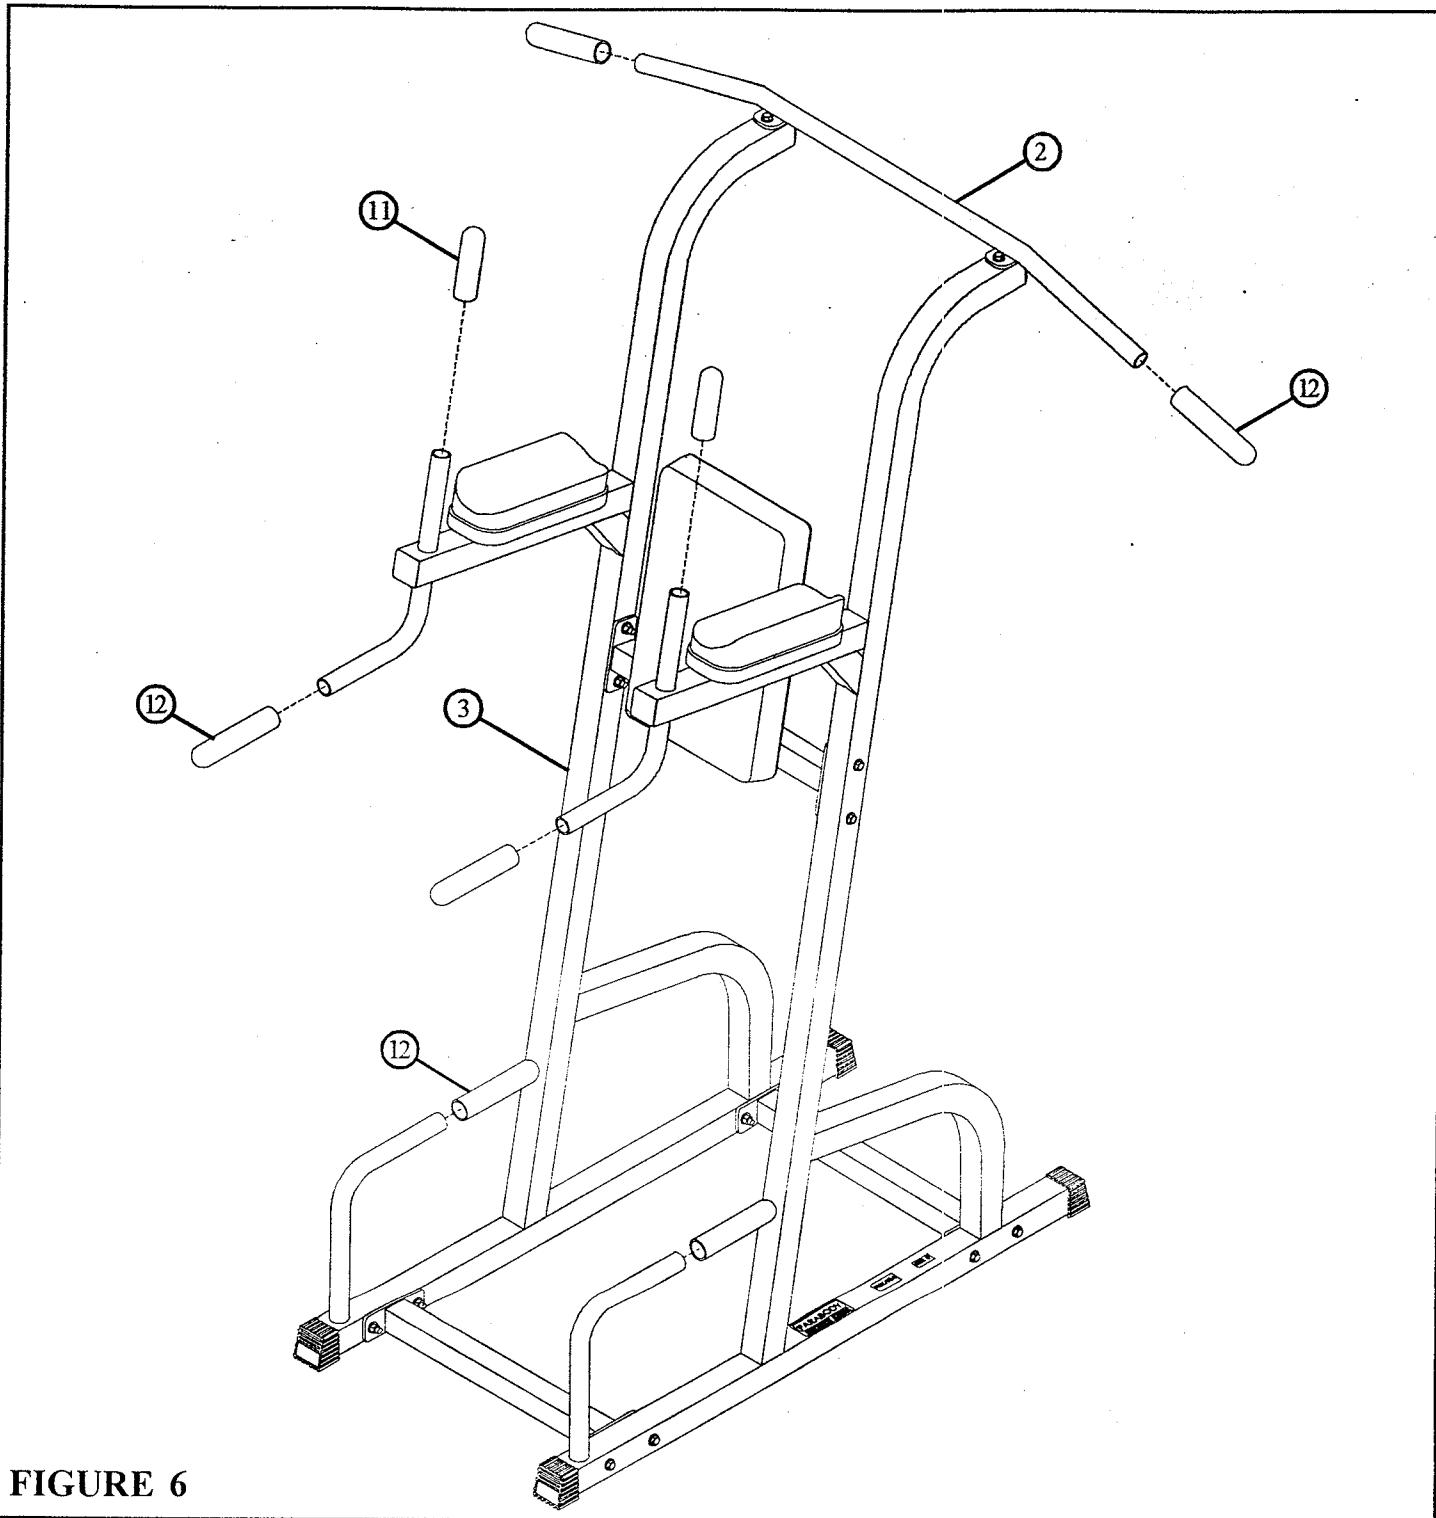

**FIGURE 5**
- **SECURELY** assemble the BACK PAD (5) to the UPPER BACK SUPPORT (4) using two 3/8 X 3" BOLTS (10), two 3/8" LOCK WASHERS (8), two 3/8" FLAT WASHERS (7) as shown in FIGURE 5.